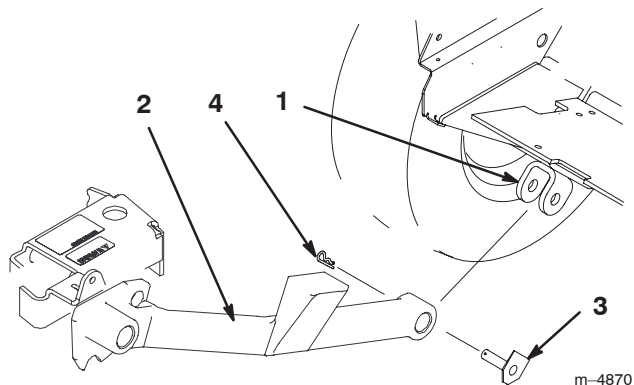

Figure 30
- Position carrier frame in front of traction unit and place push arms into clevises (Fig. 30).
- Install push arms with pivot pin assemblies, aligned with flat against frame, and secure with hairpin cotters (Fig. 30).